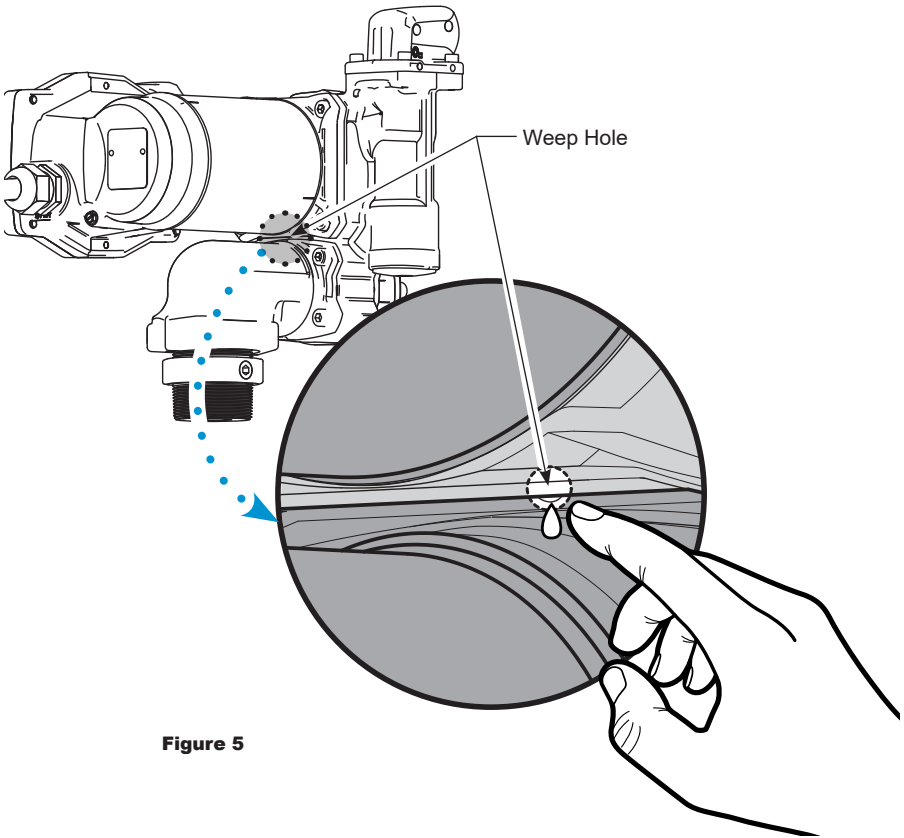

Figure 5
1. Locate small weep hole below the motor housing, on the back of the pump housing to check for a motor shaft seal leak (see Figure 5).